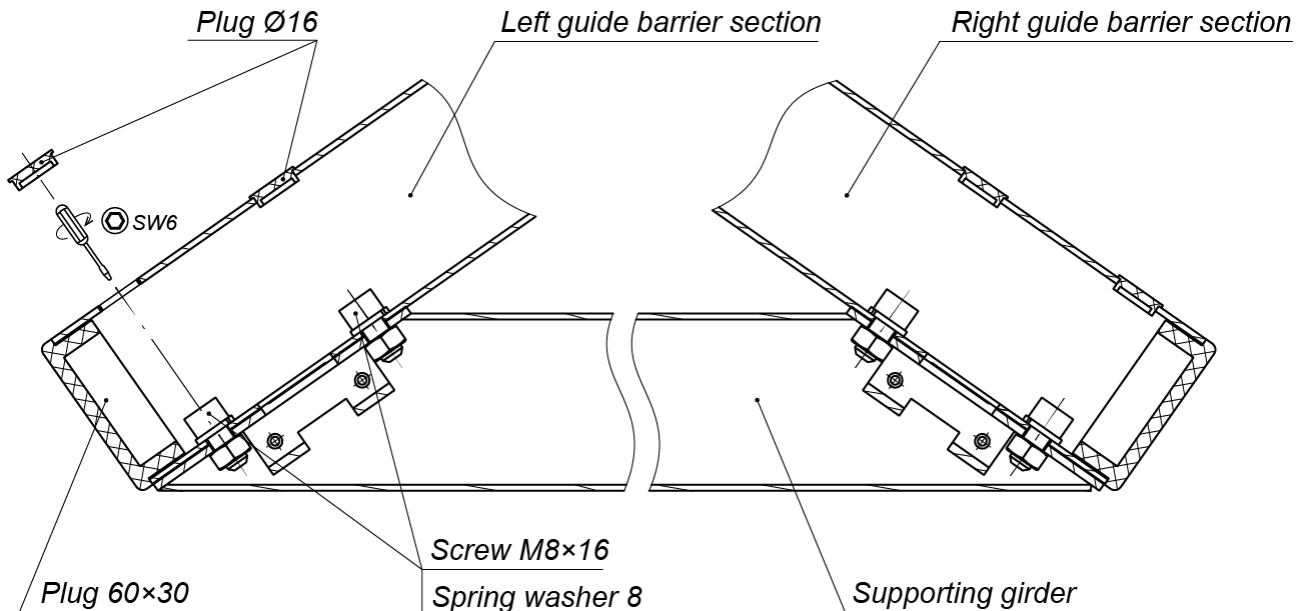

Figure 15. Fixing of the supporting girder to the barrier sections
out of the axis of symmetry (see Fig. 2) consider the positioning of the support post fixing points on the sections (see Fig. 15).
14. Install the supporting girder (7) on the guide barrier section (6) (see Fig. 15):
20. Use the plastic plugs Ø16 to cover the bolt holes in the joints connecting the rotor section (2) and supporting girder (7) to the section (6) of guide barriers set (Fig. 15 and 19).